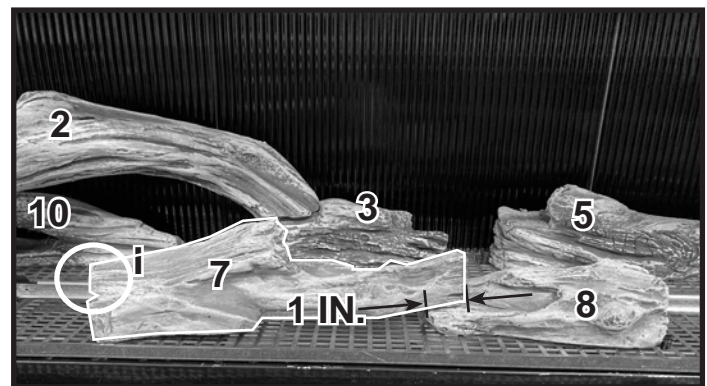

Figure 6 Install Log #7
**Log #7:** Set the right side of Log #7 on the left side of Log #8. There should be a one inch overlap as noted in Figure 6. Pivot the left side of Log #7 back until it contacts log pin (I.)